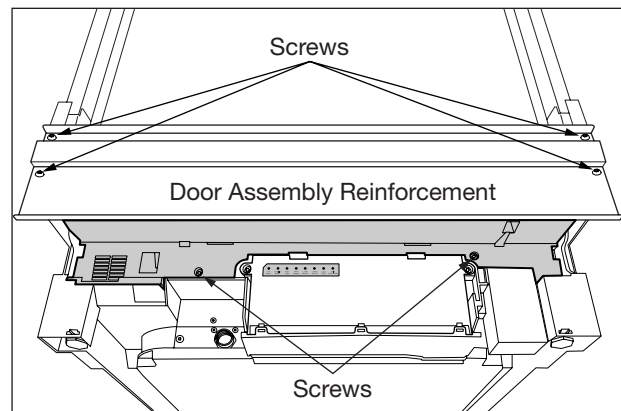

Figure 5-22. Valve Service Cover Removal
3. Using a #20 Torx bit, extract the 4 screws securing the door assembly reinforcement to the door hinge assembly. (See Figure 5-22)